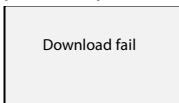

Figure 6-10 Display the parameter download failure
2. At downloading the parameters, display the "parameter download failure", shown as Figure 6-10, representing that keypad storage parameters and the parameters of the present MCB are inconsistent, or software versions are inconsistent.